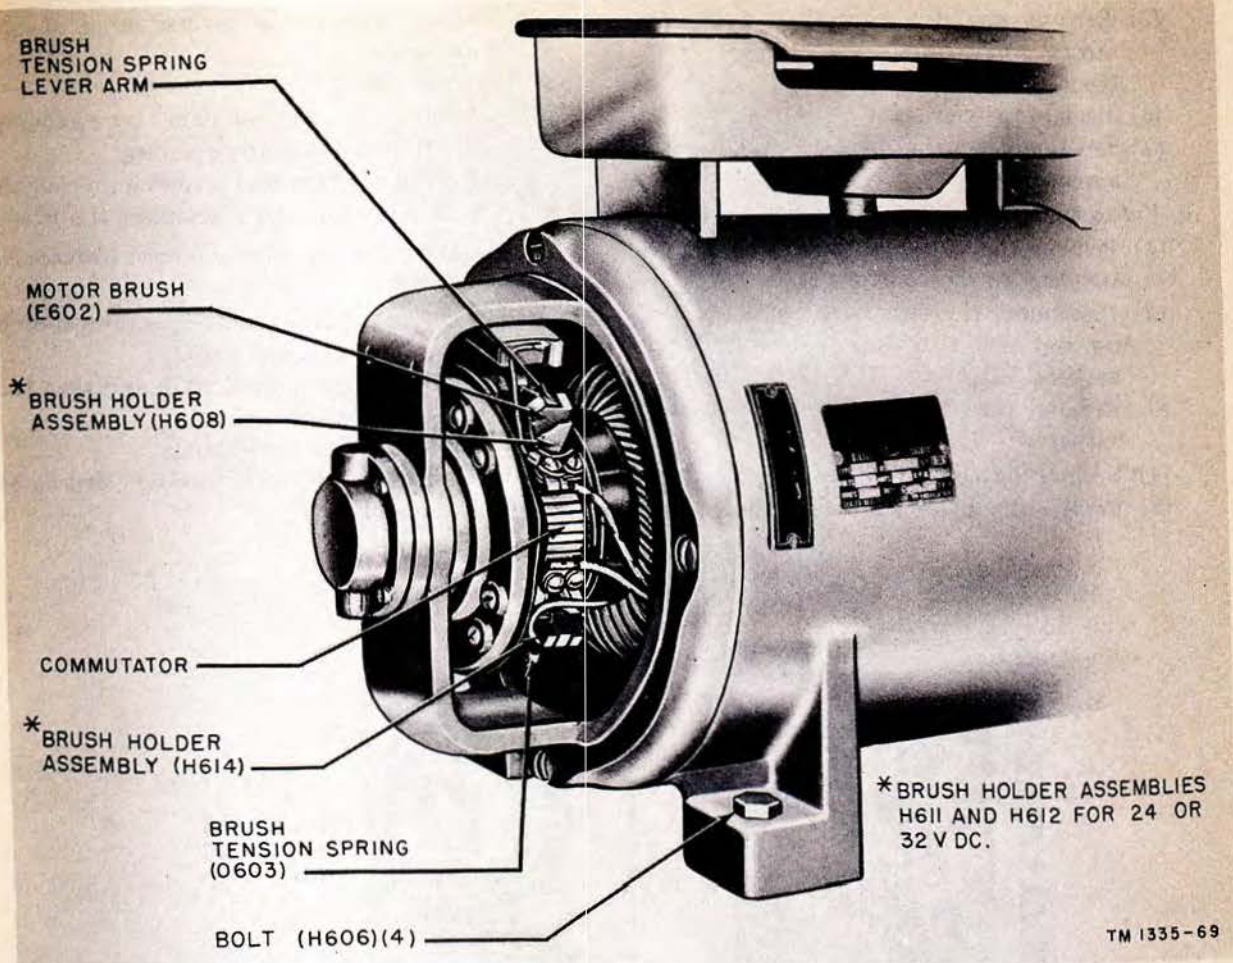

Figure 178. Motor end bell, cover removed.
- (3) Lift up the brush tension spring lever arm (fig. 178) with the index finger of one hand and pull the brush out of the brush holder with the other hand. Keep the brush in line with the axis of the brush holder as the brush is removed.
- (4) Lower the spring lever arm carefully into place.
- (5) Clean the inside of the brush holder with a clean, dry cloth.